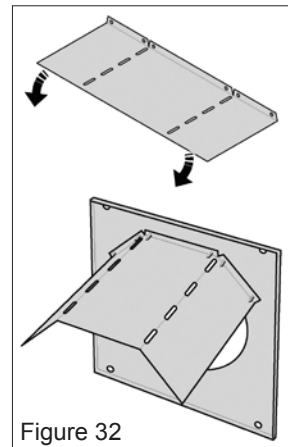

Figure 32
1. Bend the wall shields and screw to the inside of the wall plates with 6 thread-cutting screws per plate. See figure 32.